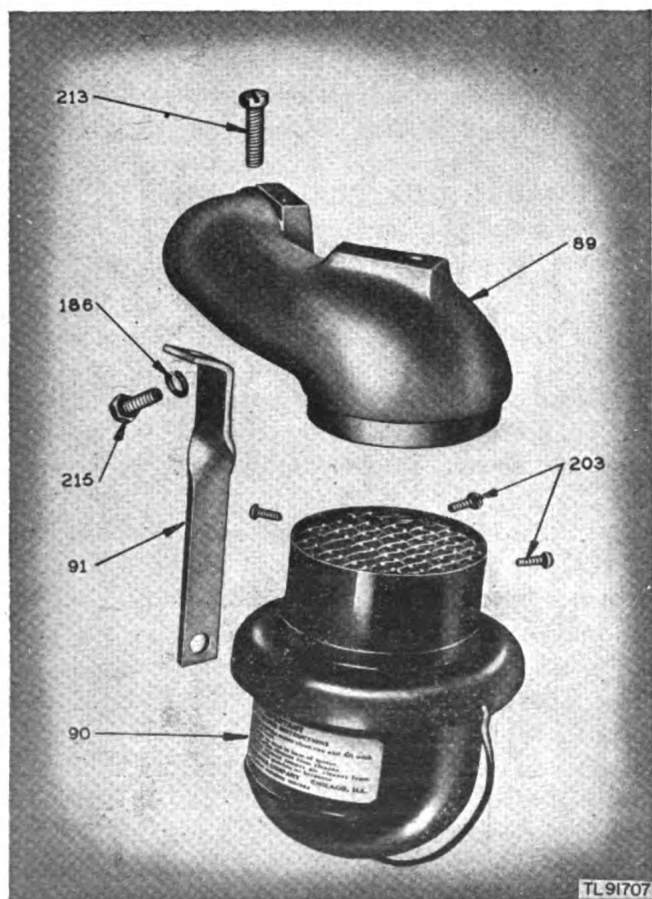

Figure 32. Air cleaner mounting parts.
f. ITEM 64. *ELECTRICAL WIRING. (1) Check all ignition and control circuit wiring to see that it is securely connected, clean, and not damaged.
(2) Check weekly all accessible wiring to see that it is securely connected and supported, that the insulation is not cracked or chafed, and that its conduits and shielding are in good condition and secure. Report any unserviceable wiring.
g. ITEM 65. *AIR CLEANERS. (1) Check to see that oil in the air cleaner is at the correct level and not excessively dirty. Excessive dirt in the oil may be felt with the fingers. Swing the bail from under the cup (fig. 32) and remove the cup. The oil should be up to the level of the beaded mark inside the cup. If the oil in the cleaner is excessively dirty, clean and refill the cleaner with fresh oil. (See fig. 34.) In order to keep abrasive dirt out of the engine, the air cleaner and breather holes must be kept clean and properly serviced at all times.
(2) Remove and disassemble the air cleaner weekly. Loosen the clamp screw (fig. 32(213)) that holds the air cleaner to the carburetor air intake and remove it from the carburetor. Clean the entire unit by sloshing it up and down in Oil, Fuel, Diesel U.S. Army spec No. 2-102C or dry-cleaning solvent. Allow the parts to dry